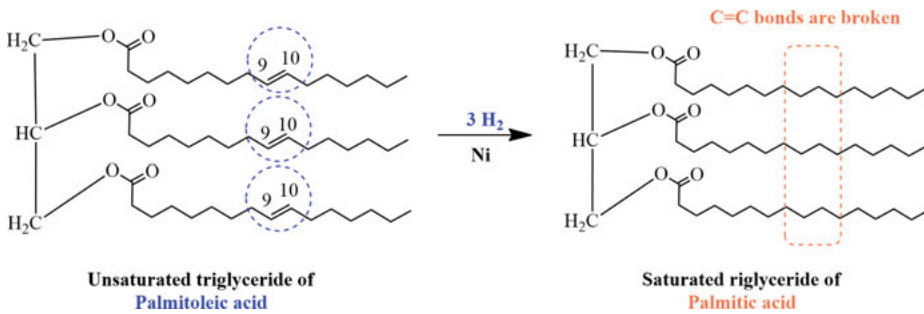

Figure 3.4: Hydrogenation of unsaturated triglycerides.
**3.4.1.1 Hydrogenation:** unsaturated triglycerides react with hydrogen (H2) in the presence of nickel (Ni) or platinum (Pt) catalysts to form saturated triglycerides. The C=C bonds are converted to C-C bonds (Figure 3.4).